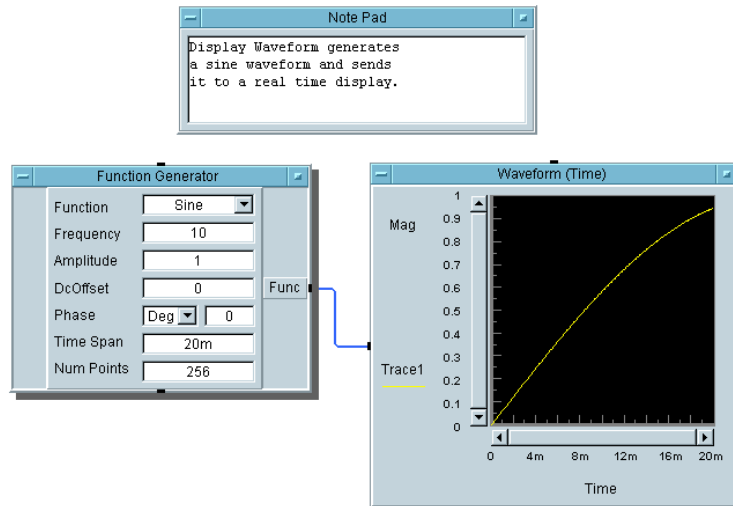

Figure 1-29. Example: Changing the Frequency Field to 10 Hz
8. Press **Delete** to delete the last 0, changing the Frequency value to 10. Run the program. It should look like Figure 1-29.